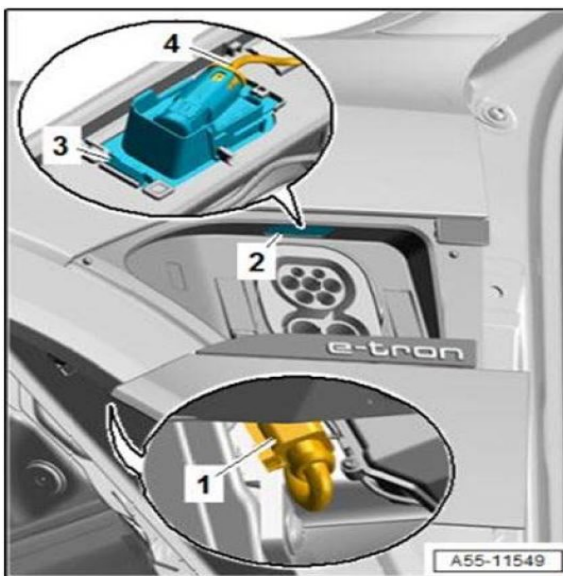

Figure 14: Overview of the position of the charging door (installed).
7. Unplug the electrical connector inside of the wheel well (1), release the catch (3), remove the bulb (2), and unplug the electrical connector in the back of the bulb (4) (Figure 14).